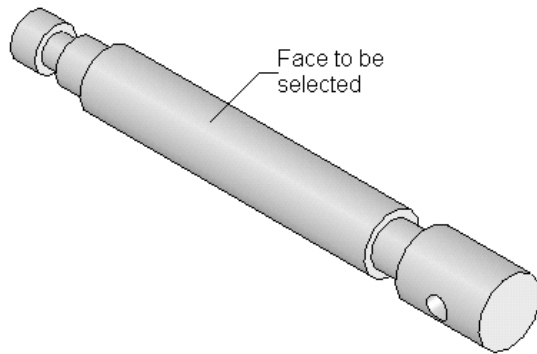

Figure 12-61 Face to be selected
- Drag and drop the jaw screw in the assembly document and apply the required mates, refer to Figures 12-61 through 12-66.
5. Press and hold the ALT key down on the keyboard and then select the face from the location shown in Figure 12-61.